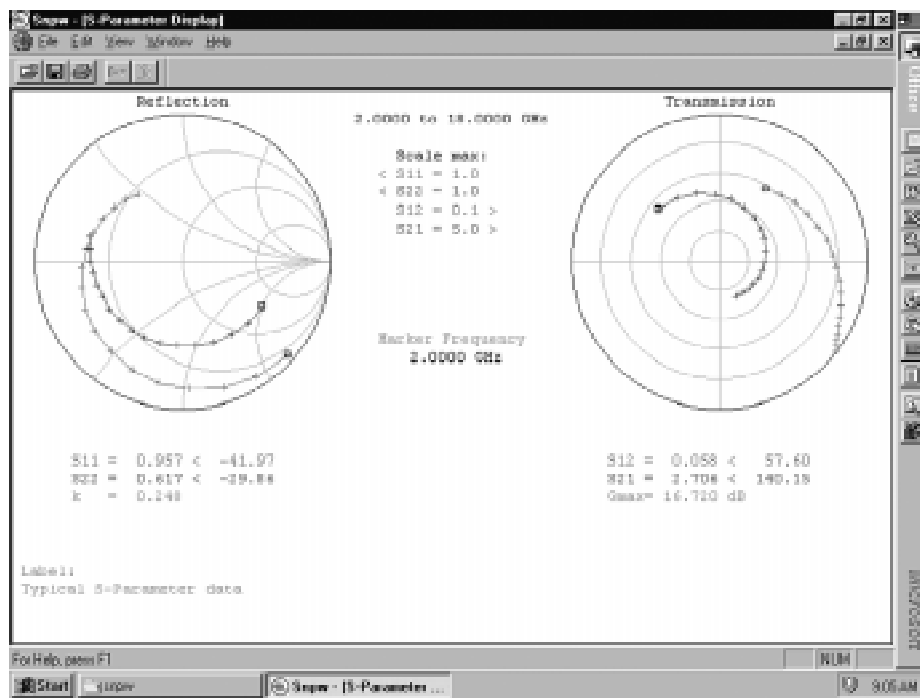

Figure 6-1. Typical S-Parameter Display
- f. The s-parameter display (see Figure 6-1) shows all four parameters on a Smith chart (reflection) and a polar chart (transmission). Use the <Left/Right Arrow> keys to move through the frequency range. The parameter values at each frequency are displayed on the left side of the screen. To display the values at a specific frequency: select <View>, <Marker Frequency> from the menu bar; highlight and click on
- f. The s-parameter display shows all four parameters on a Smith chart (reflection) and a polar chart (transmission). The display is similar to Figure 6-1 except that the data applies to a single bias value shown at the bottom of the screen. Use the <Left/Right Arrow> keys to move through the frequency range. The parameter values at each frequency are displayed on the left side of the screen. To display the values at a specific